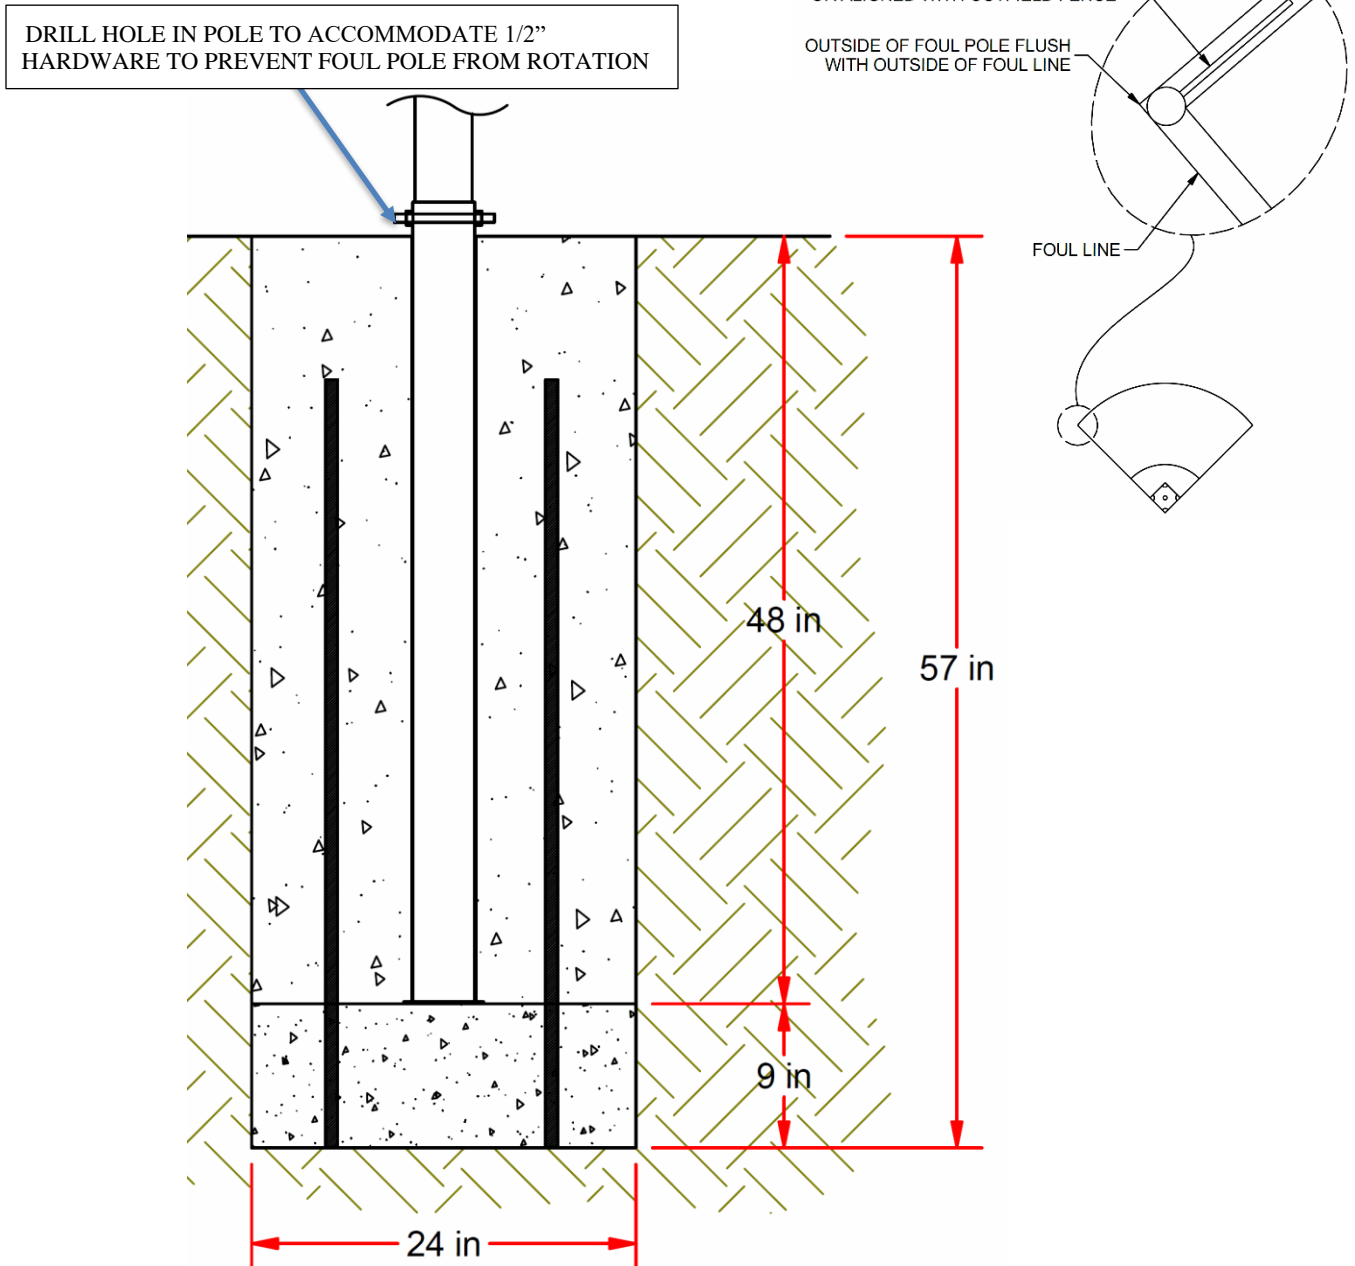

FIGURE: 8
5. Install the 1/2" thread rod and flange nuts on to the sleeve (figure 8).